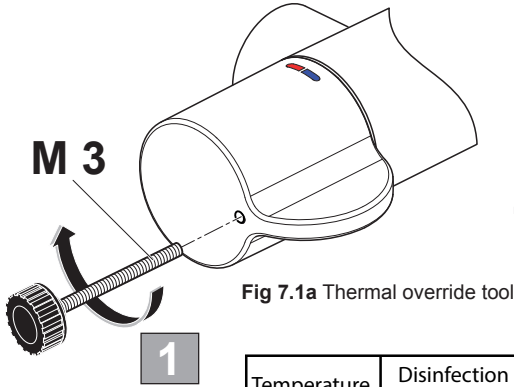

Fig 7.1a Thermal override tool
1. To activate, screw the override tool fully into the threaded port on top of the temperature handle, see fig 7.1a.